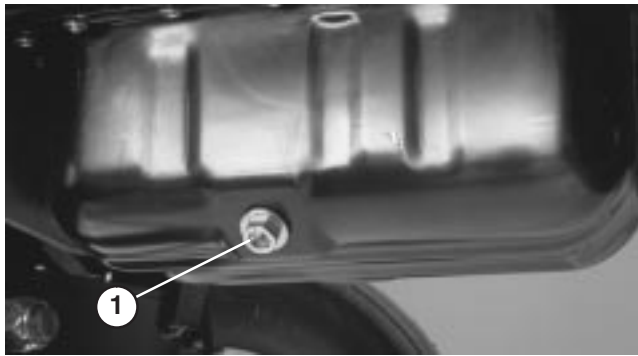

Figure 32
2. Set drain pan under the oil pan and in line with drain plug (Fig. 32).